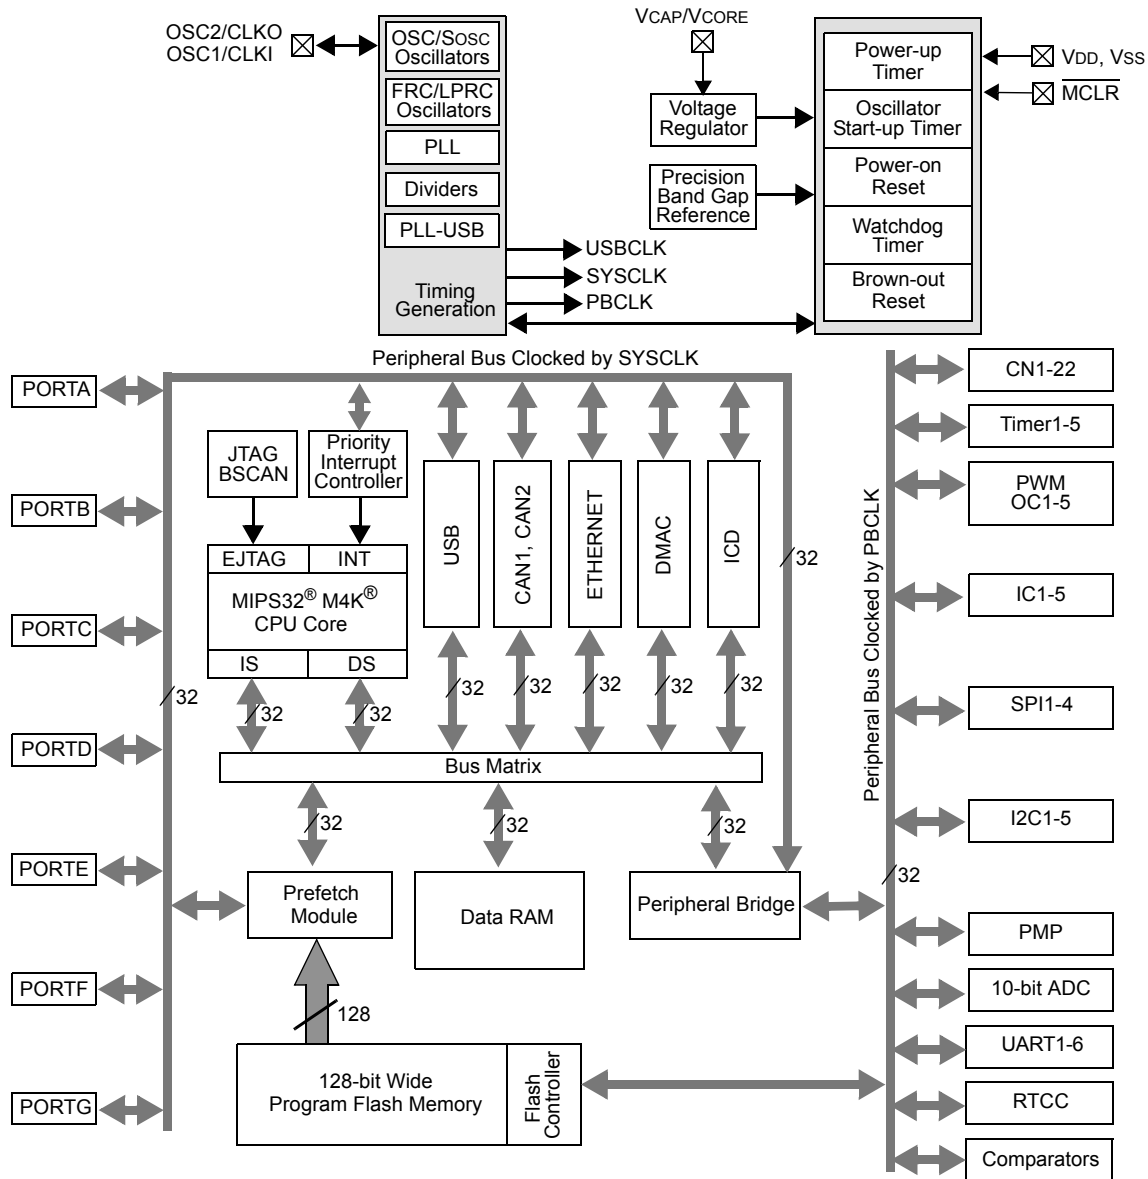

Figure 2.2: The PIC32MX5XX/6XX/7XX architecture.
Figure 2.2 depicts the PIC32’s architecture. Of course there is a CPU, program memory, and data memory. Perhaps most interesting to us, though, is the plethora of *peripherals*, which are what make microcontrollers useful for embedded control. From left to right, top to bottom, these peripherals consist of PORTA . . . PORTG, which are digital I/O ports; 22 change notification (CN) pins that generate interrupts when input signals change; five 16-bit counters (which can be used as one 16-bit counter and two 32-bit counters by chaining) that can be used for a variety of counting operations, and timing operations by counting clock ticks; five pins for output pulse-width modulation (PWM) pulse trains (or “output compare” OC); five pins for “input capture” (IC) which are used to capture timer values or trigger interrupts on rising or falling inputs; four SPI and five I2C synchronous serial communication modules; a “parallel master port” (PMP) for parallel communication; an analog-to-digital converter (ADC) multiplexed to 16 input pins; six UARTs for asynchronous serial communication (e.g., RS-232, RS-485); a real-time clock and calendar (RTCC) that can maintain accurate
Note that the peripherals are on two different buses: one is clocked by the system clock SYSCLK, and the other is clocked by the peripheral bus clock PBCLK. A third clock, USBCLK, is used for USB communication. The timing generation block that creates these clock signals and other elements of the architecture in Figure 2.2 are briefly described below.